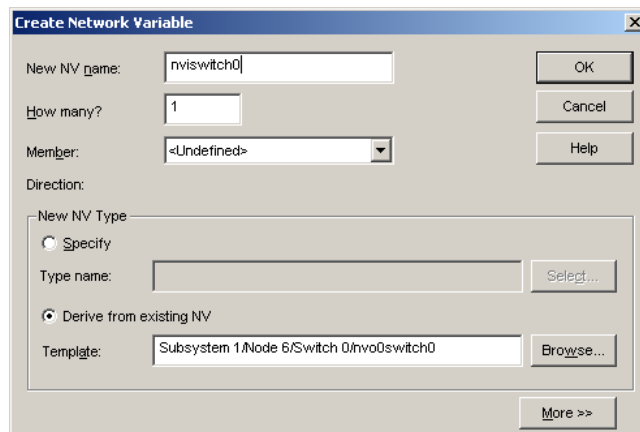

Figure 88: We keep the suggest name *nviSwitch0* for the new network variable.
7. A new name is already suggested for this newly created network variable. In our case we keep the **New NV Name** of “nviSwitch0” as shown Figure 88.